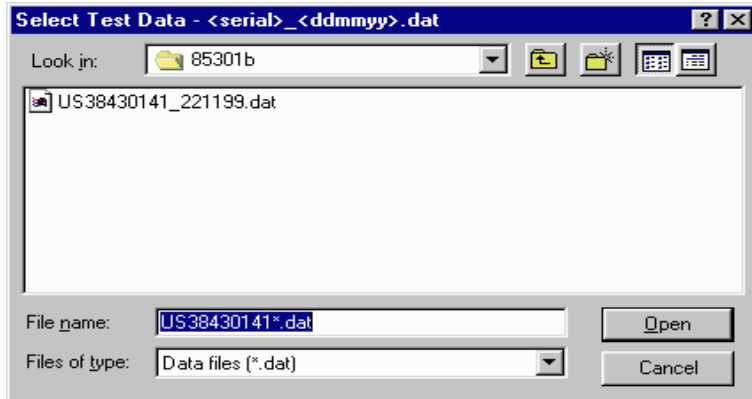

Figure 32 *Select Test Data Window*
6. A message is displayed if data from a dependent test is not available and testing will not continue. The file manager dialog box lists valid data for that UUT's serial number, sorted by date. Select any appropriate date, then click **Open**. See Figure 32.